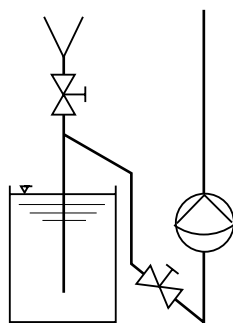
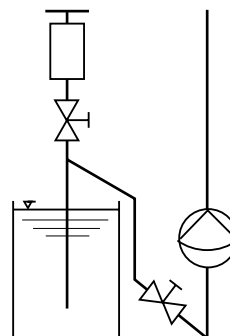

Fig. 8
Fig. 9
- ▶ Fit filling equipment (Fig. 8) or siphon equipment (Fig. 9) for the siphon line (intake line).